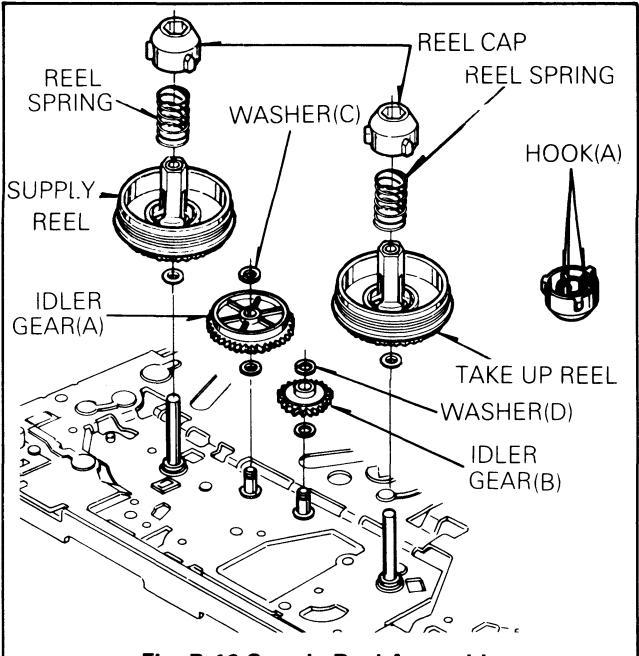

Fig. B-16 Supply Reel Assembly
17. Idler Gear(A), (B)(Fig. B-16)
- ① Do not disassemble the Clutch Gear Assembly any further, because Torque adjustment can't be adjustable.
30. Take Up Reel Assembly(Fig. B-16)